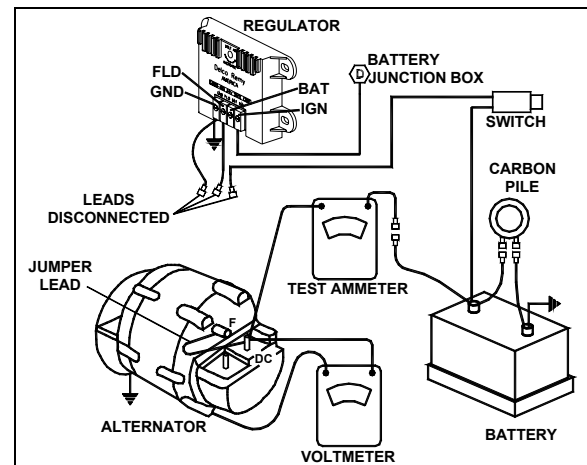

FIGURE 33: REGULATOR VOLTAGE TEST (UNDERCHARGED BATTERY)
6. See Figure 33 for wiring connections.
- B) By removing any retaining screws involved and unsoldering the connections. When resoldering, limit solder time to a minimum as excessive heat may damage the printed circuit board and component parts. However good soldered connections are essential for satisfactory operation. A resin core 63% tin 37% lead solder with a 360 °F (182°C) melting point is recommended along with a soldering iron rated at 50 watts or less. Use extreme care to avoid overheating. Before checking the printed circuit board, remove transistor TR1, which must be checked separately. Connect the ohmmeter as shown in Figure 33, and then reverse the ohmmeter leads to obtain two readings on the same component. Use the middle scale on scale-type meters on which the 300 ohm value should be within, or nearly within, the middle third of scale.